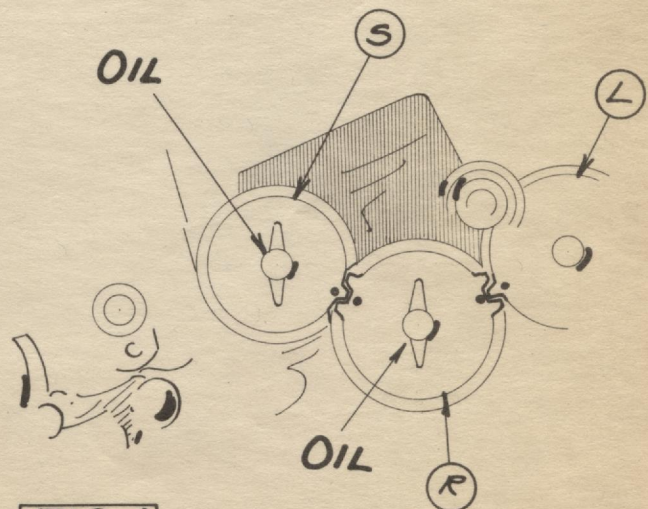

FIG. 4
- 369 ASSEMBLE GEAR (R) BETWEEN GEARS (L) AND (S) - IN TIME AS SHOWN IN FIG. 4. PUT ON RETAINING CLIPS.